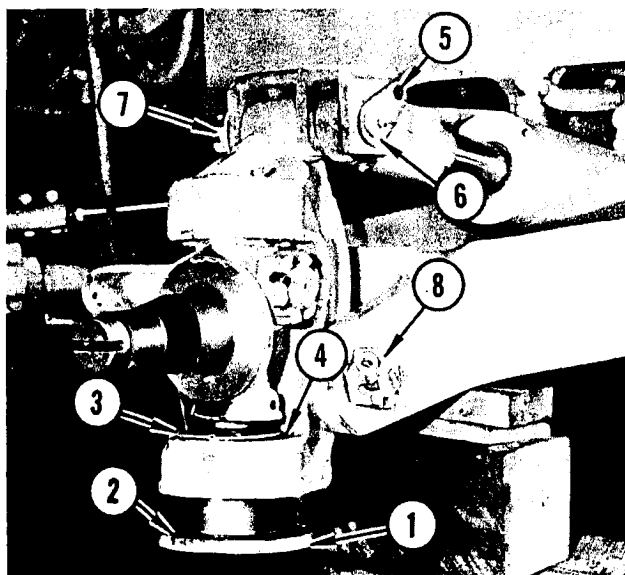

FIGURE 5. SPINDLE REMOVAL
Refer to Figure 5. Remove six capscrews and lockwashers and remove lower spindle bearing (1). Remove shims (2) from bearing. Permit the spindle to drop down as far as it will go. Tilt top of spindle outward and remove from fork. Remove closure washer (3) and seal washer (4) from fork.